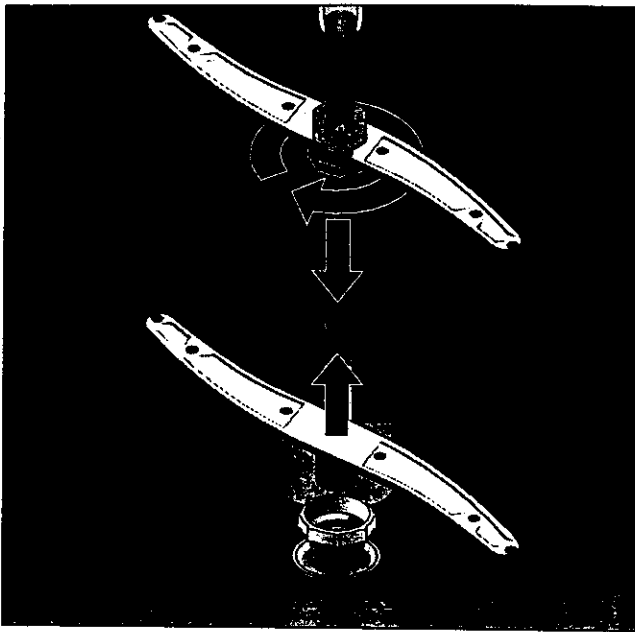

Figure 15.
- > The upper wash arm is held in position by a locking ring that can be released by turning it approximately 1/8 turn. See figure 15.